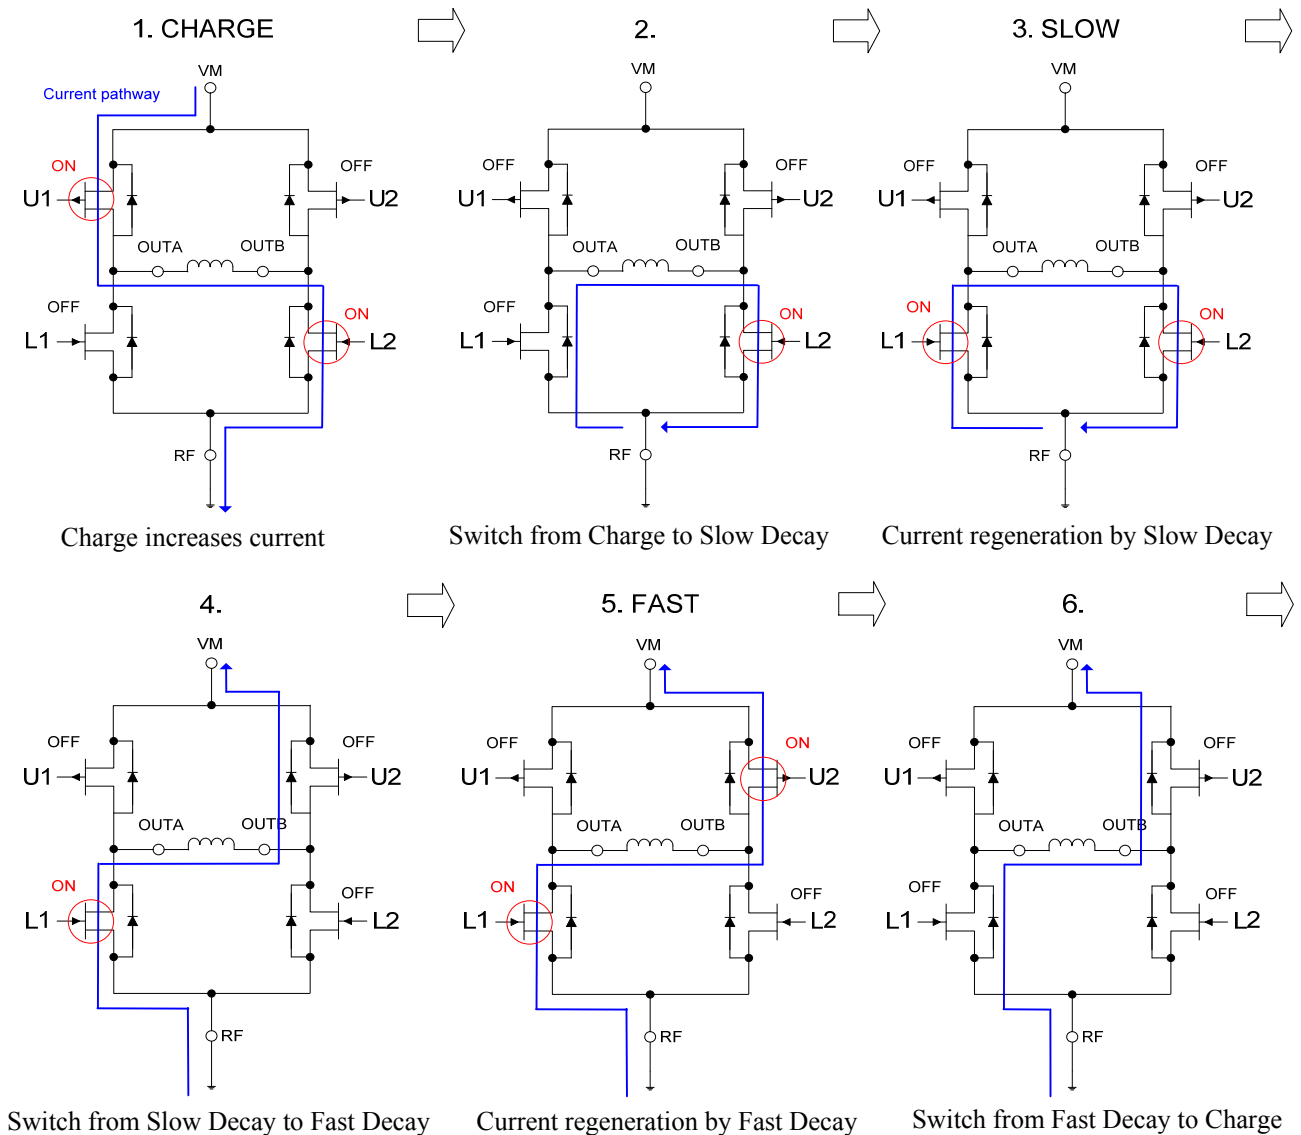

Figure 30. MOSFET switching sequence for constant-current control
These intervals (Charge, Slow Decay and Fast Decay) are results of MOSFET switching as shown in Figure 30.
Whenever, there is a switch from the upper MOSFET to the lower MOSFET of the same leg, the fixed dead time of $0.375\mu\text{s}$ is provided to avoid turning on both MOSFETs on at the same time. During this time, the coil current flows through the body diode of the MOSFET as seen in (2), (4) and (6) events in figure 30.